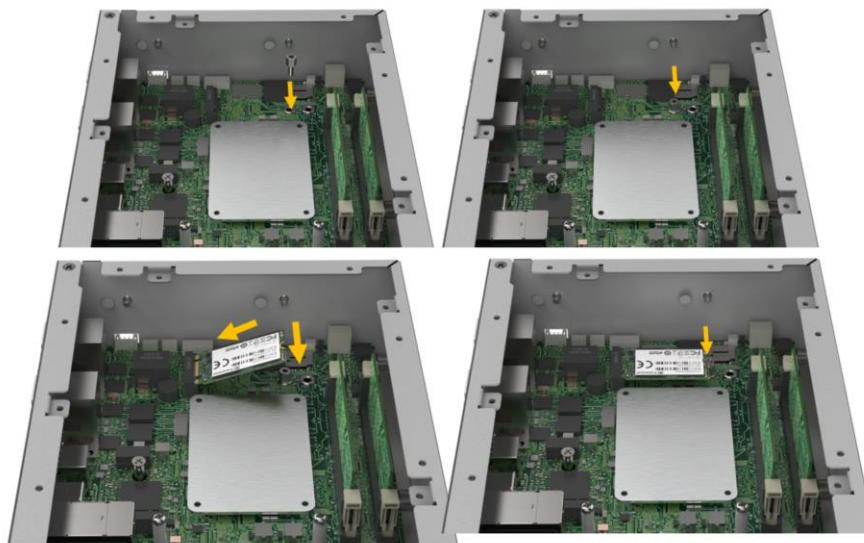

Figure 3-4: M.2 Installation
Step 2: Insert the M.2 SSD into the M.2 slot and fasten the screw removed previously (**Figure 3-4**).